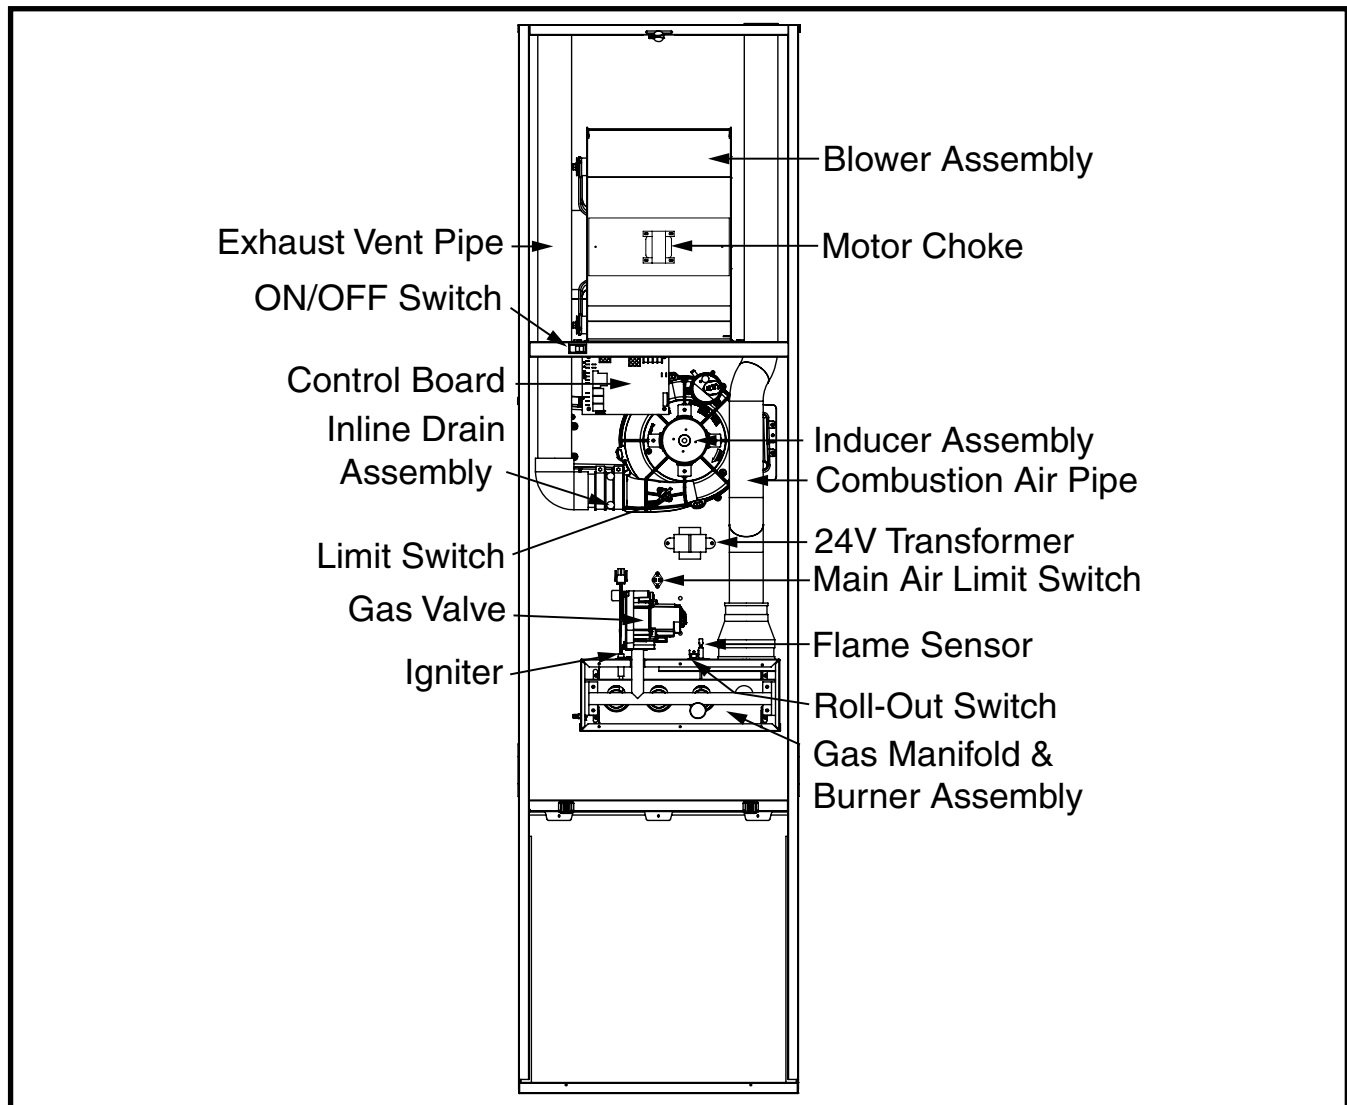

Figure 23. Furnace Components
If the burners must be cleaned, follow steps 1-12. See Figure 23 \(page 28\) for component location.
- If the inducer blower is operating, and items above have been verified, check the blower limit switch and reset if necessary. See Figure 23 for component location.
The descriptions below are various functional components that affect the operation and shutting down of this furnace. Some of these components and their locations are shown in Figure 23. If any component of the furnace must be replaced, use only factory authorized replacement parts specified in the Replacement Parts List provided online.